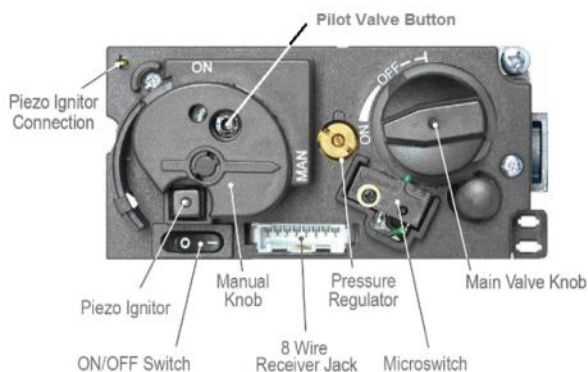

Figure 16 – GV60 Valve Configuration (Top)
4. Locate and turn the MANUAL Knob on the valve clockwise to the "MAN" position (see *Figure 16*).
8. Once the pilot lights, continue holding the Pilot Button for one (1) minute. Release the Pilot Button and the pilot flame should remain on.